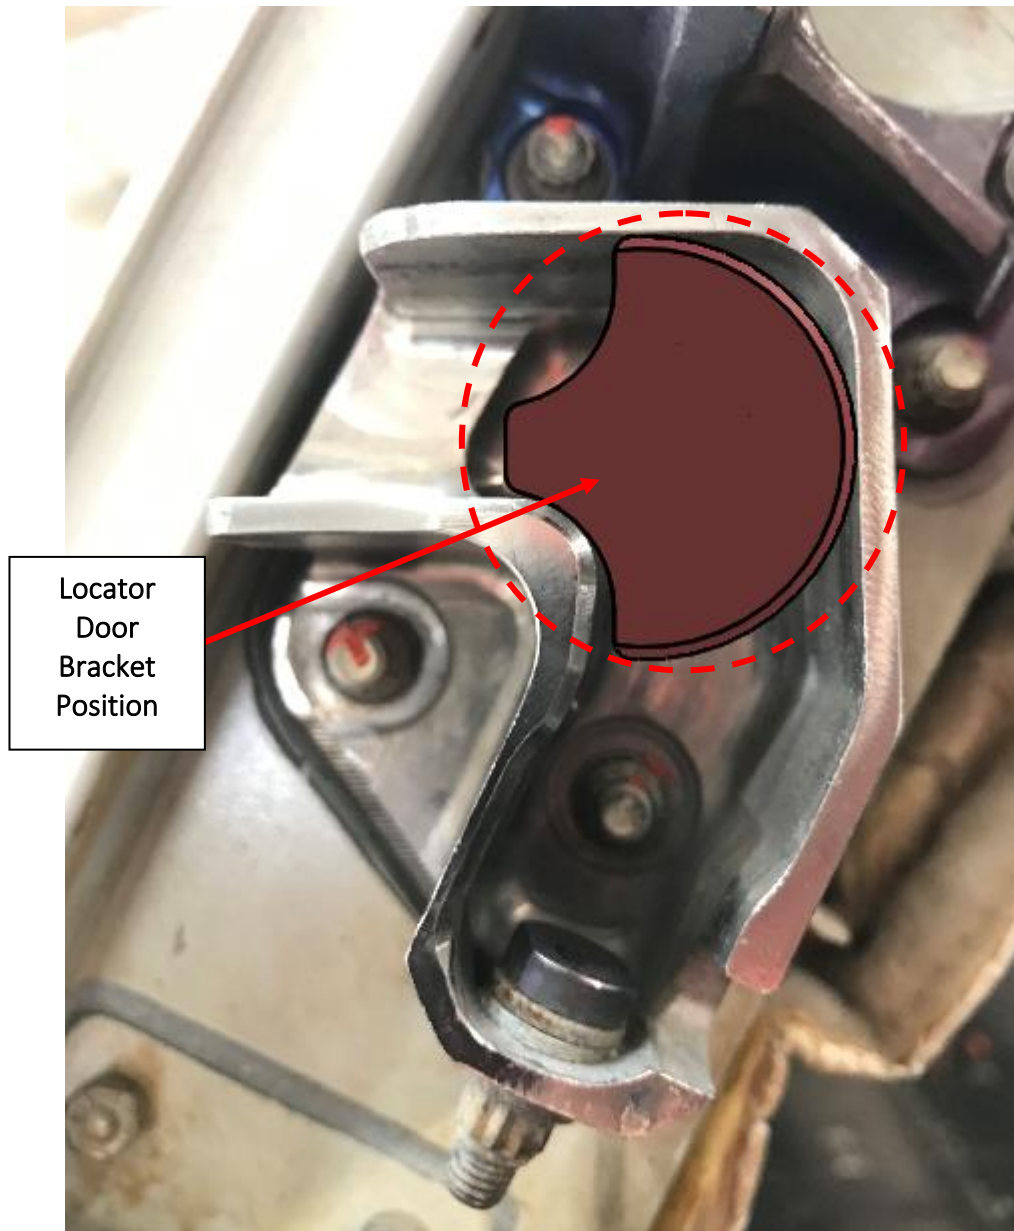

Figure 10 Top Door Bracket.
- 4.1.9 The Top Sprung-Loaded Locator fits into the Top Door Bracket area highlighted in figure 10.
- 4.1.10 The profile on the Top Sprung-Loaded Locator locates over the Door Bracket position shown in figure 10 & 11.